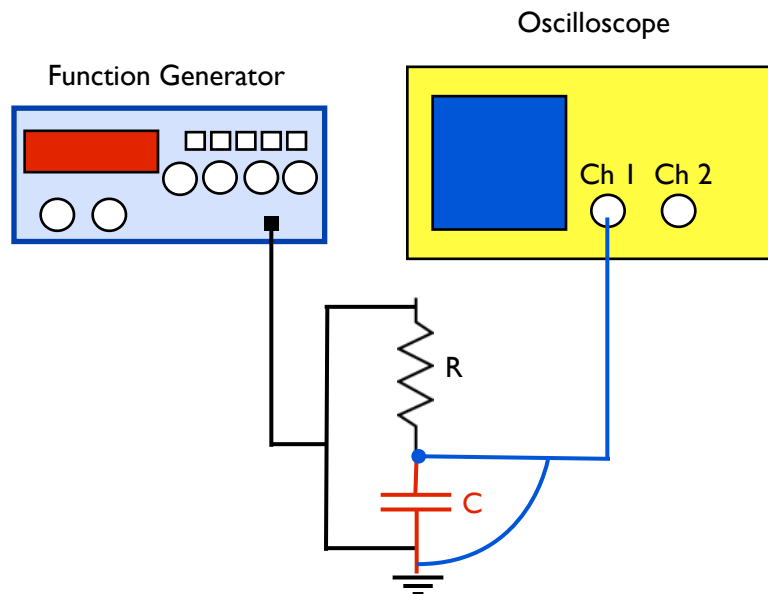

Figure 5: Setup for measurement of fast time constant.
1. Using the Capacimeter and an Ohmmeter, find the capacitance and resistance of the small capacitor and the resistor given for this part (nominal values 10 nF and 12 k Ω , respectively). Connect the RC circuit as shown in Figure 5. Make sure you connect the input of the oscilloscopes CH1 to the point between the capacitor and resistor in the circuit.